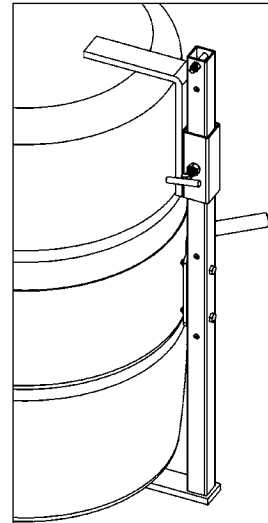

Figure 2.1
- The **Bracket Assembly** (Kit # 4556SS-P) is **required** to handle a plastic drum without a top rim (see figure 2.1). It is also recommended to more securely handle a fiber drum. You can use the Bracket Assembly with a 55-gallon (210 liter) plastic, steel or fiber drum. The brace at top and bottom of the drum prevent it from slipping lengthways through the drum holder. It adjusts for a drum 31" to 37" (79 to 99 cm) tall.